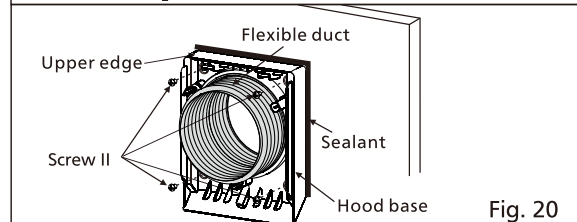

Fig. 20
- Pull flexible duct to a suitable length through the hood base. Keep the upper edge of hood base horizontal and secure it by 4 screw II (ST4.2X20) in accessory. Seal the gap between the wall and hood base by sealant. (Fig. 20)